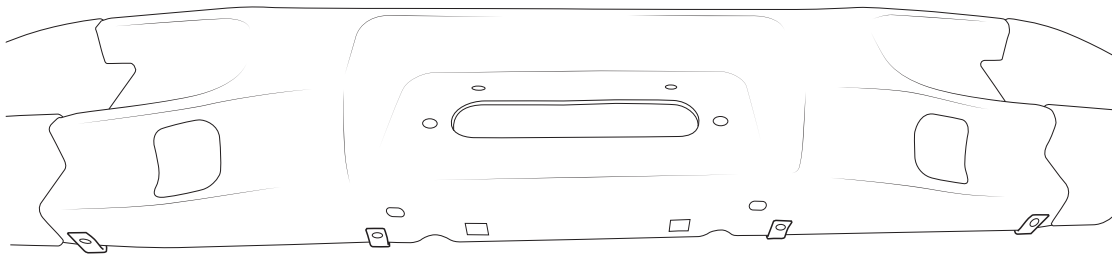

Figure 26
1. Install four provided M8 U-nuts to the bottom flange of the center stamping with the smooth surface on the bottom side. Insert until the threaded hole is centered within the hole in the stamping. (fig. 26).